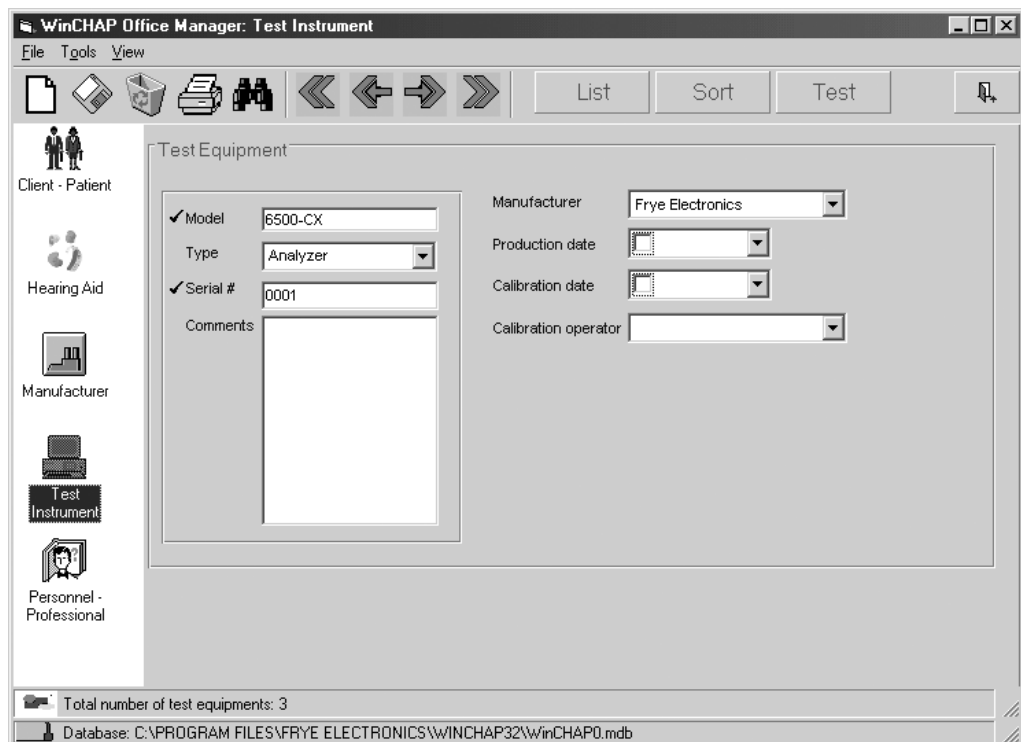

Figure 3.3.4—The Test Instruments window
1. Enter the Test Instruments window (Figure 3.3.4) by selecting **Test Instruments** in the left column of the Office Manager window.